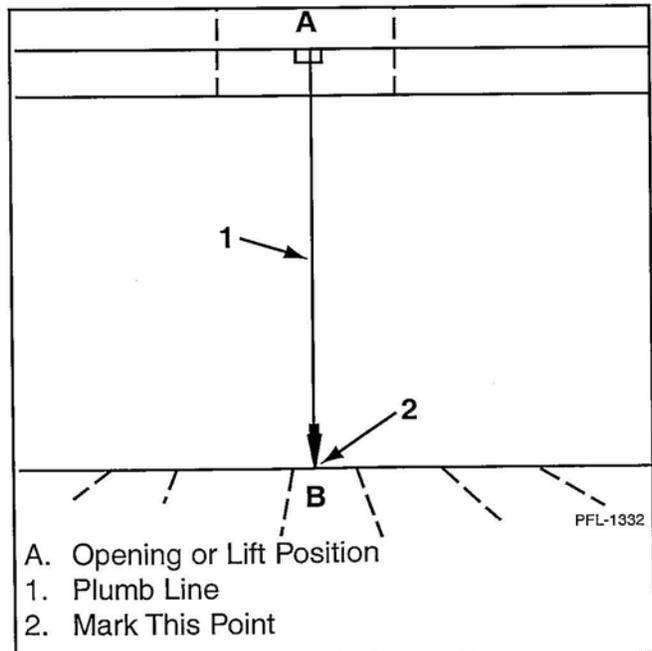

Figure 4
4. Mark tip of plumb bob clearly on the first floor. See Figure 4.